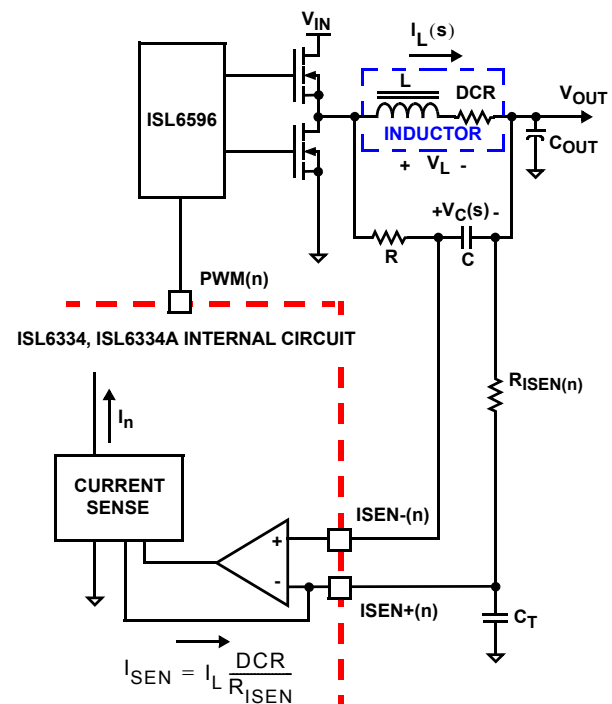

FIGURE 8. DCR SENSING CONFIGURATION
The internal circuitry, shown in Figures 8 and 9, represents one channel of an N-channel converter. This circuitry is repeated for
An inductor's winding is characteristic of a distributed resistance, as measured by the DCR (Direct Current Resistance) parameter. Consider the inductor DCR as a separate lumped quantity, as shown in Figure 8. The channel current I_L flowing through the inductor, will also pass through the DCR. Equation 4 shows the s-domain equivalent voltage across the inductor V_L .
A simple R-C network across the inductor extracts the DCR voltage, as shown in Figure 8.
The current sense circuitry operates in a very similar manner for negative current feedback, where inductor current is flowing from the output of the regulator to the PHASE node, opposite of flow pictured in Figures 8 and 9. However, the range of proper operation with negative current sensing has a limitation. The worst-case peak-to-peak inductor ripple current should be kept less than 70% of the OCP trip point (internal mirrored current = $\sim 70\mu A$). Care should be taken to avoid operation with negative current feedback exceeding this threshold, as this may lead to momentary loss of current balance between phases and disruption of normal circuit operation. Note that the negative current can especially affect coupled inductor designs, where the effective inductance is the leakage between the two channels, much lower than the specified mutual inductance (LM). To limit the impact, a higher R_{ISEN} value (1.5x to 2x) can be used to reduce the effective negative current seen by the controller in coupled inductor designs. Refer to Intersil's application note, AN1268 for a detailed coupled inductor discussion and ripple current calculation.